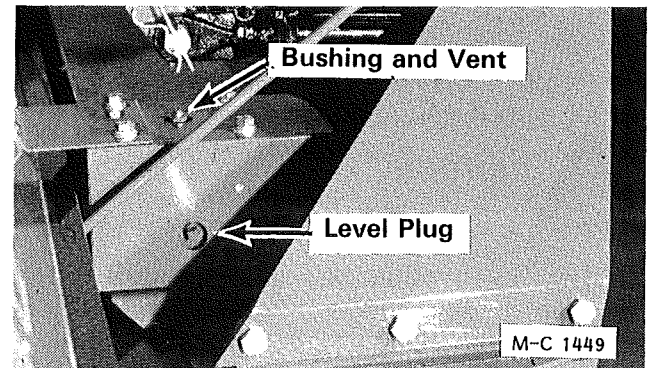

Figure 16
1. Remove the oil level plug on the right side of the gearbox, see Figure 16. The oil level should be even with the bottom of the level plug hole. If not, remove the bushing and vent on the top of the gearbox and add Mobilfluid 423 multipurpose transmission lubricant